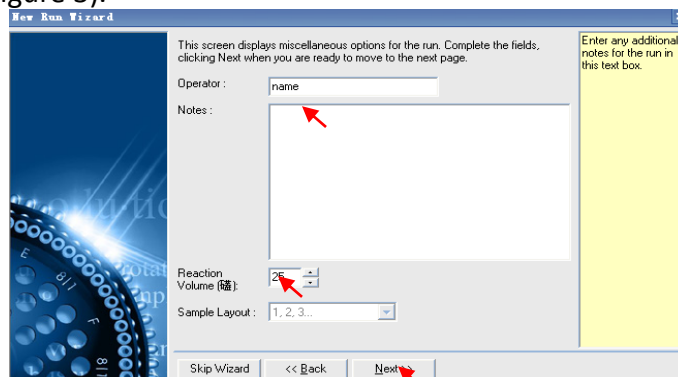

Figure 3
3. Type in the name of the “Operator”, fill in the “Reaction Volume” as 25  $\mu$ L, and then click on “Next” (Figure 3).